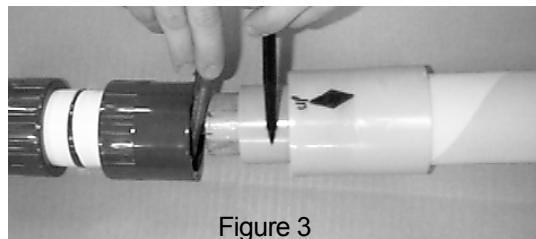

Figure 3
1. CAREFULLY slip the new Shell over the Electrode and apply PVC Primer and PVC Cement to the female adapter and the neck of the Shell. (NOTE: This procedure will require two people. One to shake the shell so the Electrode is properly seated and one to guide the Shell.) (See Figure 3)